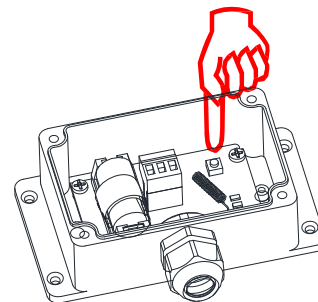

Fig. 5: 220 body and cover removal
2. To add a 220 relay output module to the Group, press and release the Test/Hush button twice within 2 s (see Fig. 5). The red LED will flash twice in 1 s.